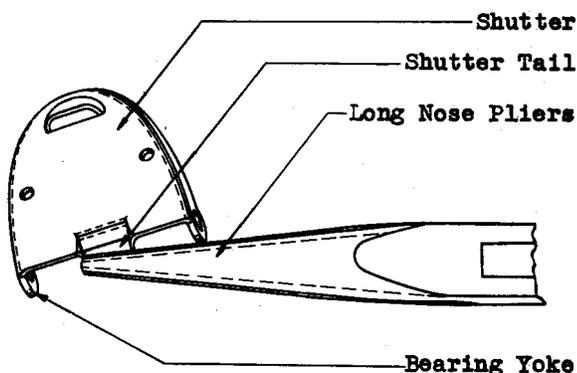

Fig. 6 - Method of Adjusting Shutter Tail
(1) Operate the armature manually and note closely whether the shutter rests entirely on the night alarm spring. If it does not it is probably due to the position of the shutter tail or to the shape of the bend at the end of the restoring lever.
(2) If the position of the shutter tail is not satisfactory, remove the hinge plate mounting screws with the Nos. 206 and 207 offset screw-drivers and remove the hinge plate. Grasp the tip of the shutter tail with the long-nose pliers as shown in Fig. 6 and adjust it away from the front of the shutter as required. Remount the shutter and check the adjustment.